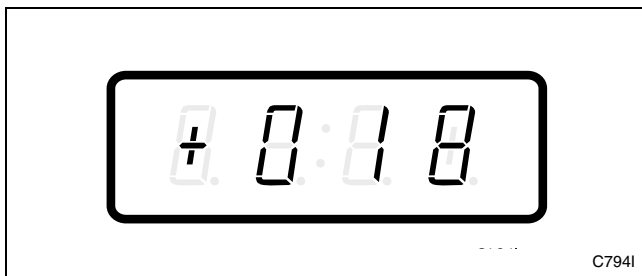

Figure 74
3. Press the LOW TEMP (+) or the NO HEAT (-) keypad to scroll through the programmable options until “+018” appears in the VFD. Refer to *Figure 74*.